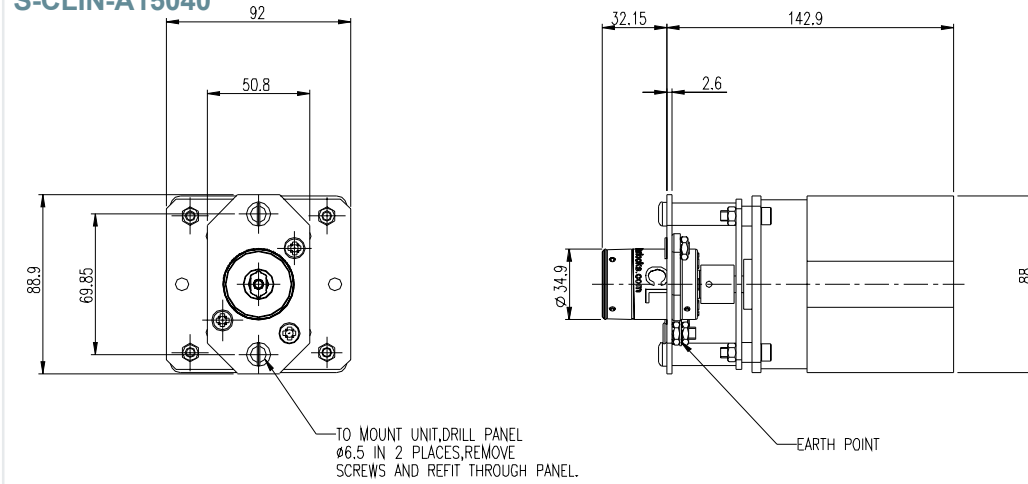

Figure 5
- 1 Check that all the switches are in the states shown in the wiring diagram - see figure 5.